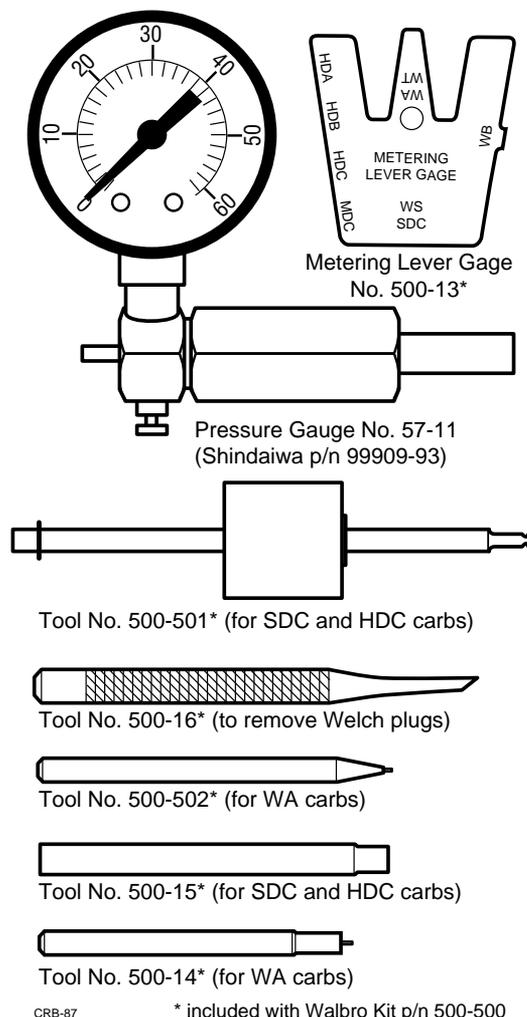

Figure 3.8 Walbro Tools
- Walbro tool kit p/n 57-500 (Figure 3.8).